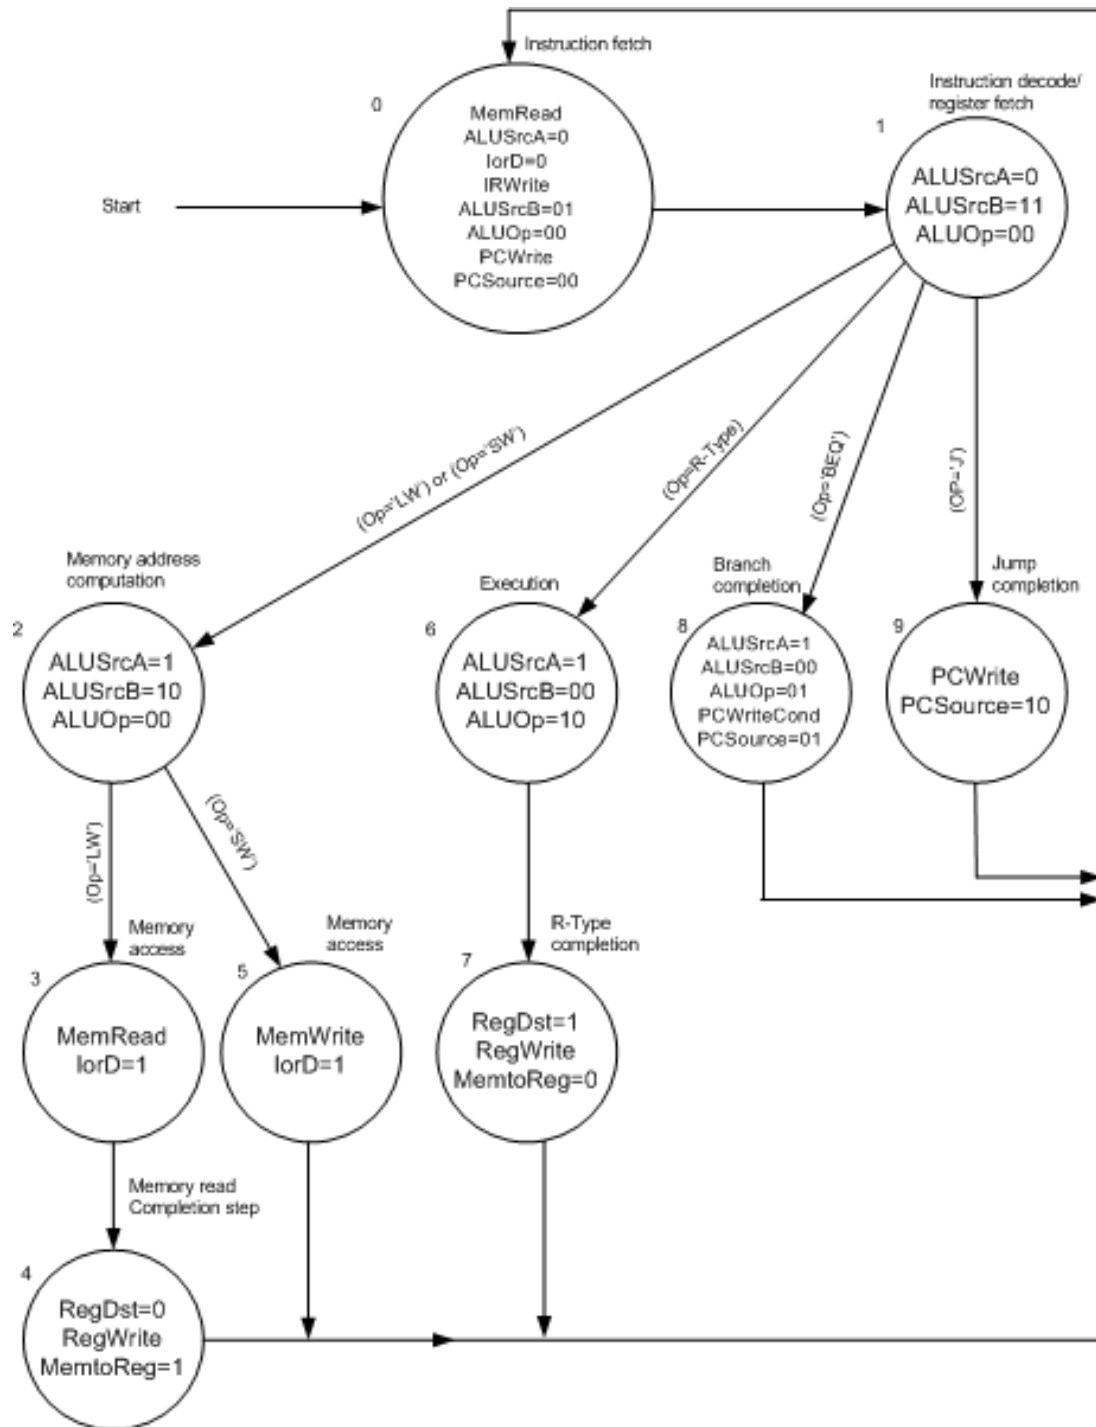

Figure 1. Finite State Machine for Control Logic
Next you should implement the control logic. It is recommended that the control be assembled next using an FSM (Finite State Machine). Using/adding/modifying the control unit shown in Figure 1, develop an adequate control implementation using an FSM. In summary, your processor must support basic MIPS code.
- The control logic should probably be very similar to the multi-cycle control logic and FSM described in Figure 1. However, you need to modify this state diagram for the additional instructions.